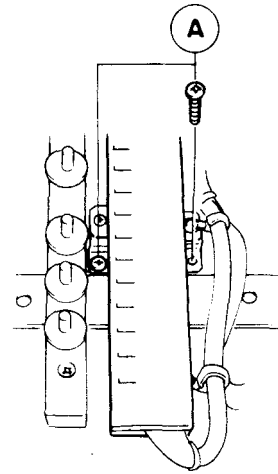

Figure 8.
- 21) Remove the six screws shown at (A) on Figure 8, and remove the unit.